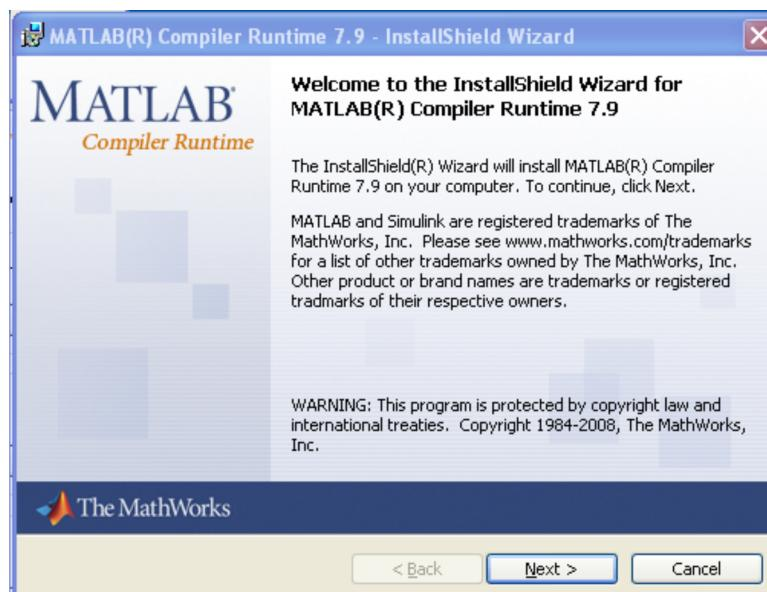

Figure 3. MCR Installer GUI
1. Run MCRInstaller.exe on the machine you use to run your simulations. This brings up an installation wizard, which looks similar to Figure 3. Click Next to continue.